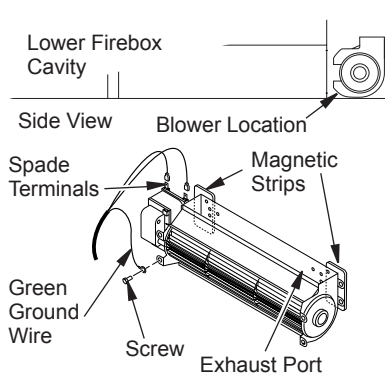

Figure 27 - Blower Model BK
1. Attach power cord to blower motor by firmly pushing the two female terminals at the end of power cord onto the two spade terminals on blower motor (see Figure 27).
2. Attach green ground wire from power cord to blower housing using screw provided (see Figure 27). Tighten screws securely.
3. Place blower against lower rear wall of the firebox outer wrapper with exhaust port directed upward. The blower will fit inside the back opening and be held in position against the back wall by magnets (see Figure 27).